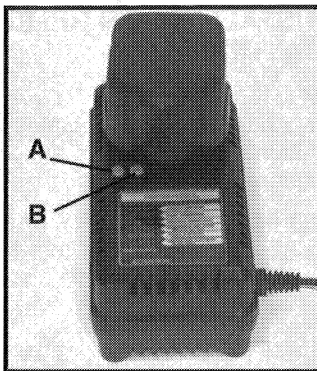

Fig. 3
Make sure power circuit voltage is the same as that shown on the charger specification plate. Connect charger to power source. The green light (A) Fig. 3, should begin to flash. This indicates the charger is ready to begin charging.
Position the battery pack to the charger, aligning the tongue on the battery pack with the slot in the charger. Insert battery pack into charger (see Fig. 3). Press lightly on the battery pack to seat it into the charger.
The green light (A) Fig. 3, should begin to glow continuously, indicating that the battery pack is receiving a "Fast Charge" (if the green light does not glow continuously, or if the red light (B) Fig. 3, also begins to flash: see DIAGNOSTICS). After approximately one hour, the "Fast Charge" indicator light should go out indicating that the battery pack is fully charged and that the charger is now in a "Trickle Charge" mode. The battery pack can be left on "Trickle Charge" until you are ready to use it.
The Model 8621 Charger is equipped with a diagnostic system that automatically checks the battery pack each time a pack is inserted into the charger. If no problems are found, the charger will automatically switch to "Fast Charge" mode as described in NORMAL CHARGING. If a problem is found, it will be indicated by the charger indicator lights (see Fig. 3), as follows: